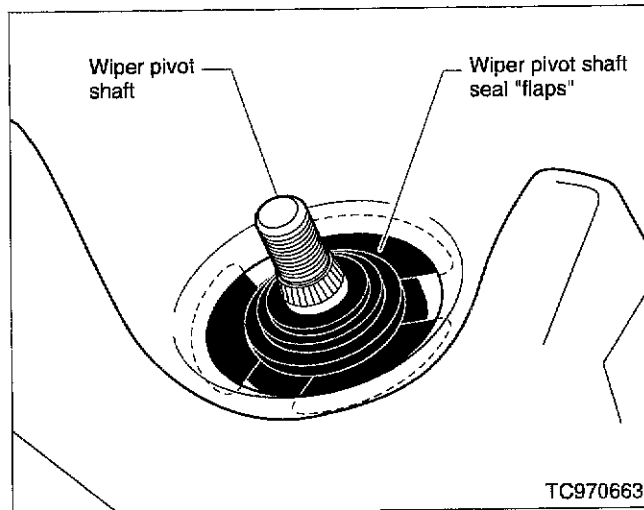

Figure 4
C. Install the new wiper pivot shaft seals and tuck the "flaps" of the seals under the cowl top cover (see Figure 4).